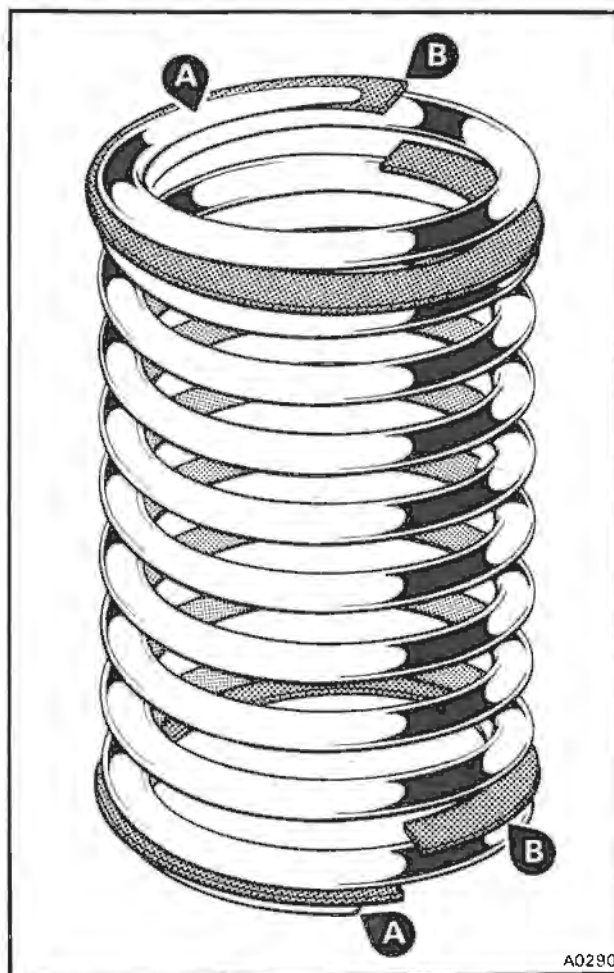

Fig. 3 Early Spring
- 4 Place the flexible washers between the first and second coils at each end of the springs (see fig. 3).